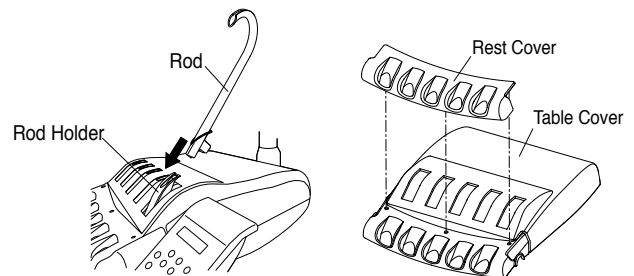

Fig.6-31 Rod and Rest Cover
(7) Rod and Rest Cover for Rod Type **(Fig.6-31)**